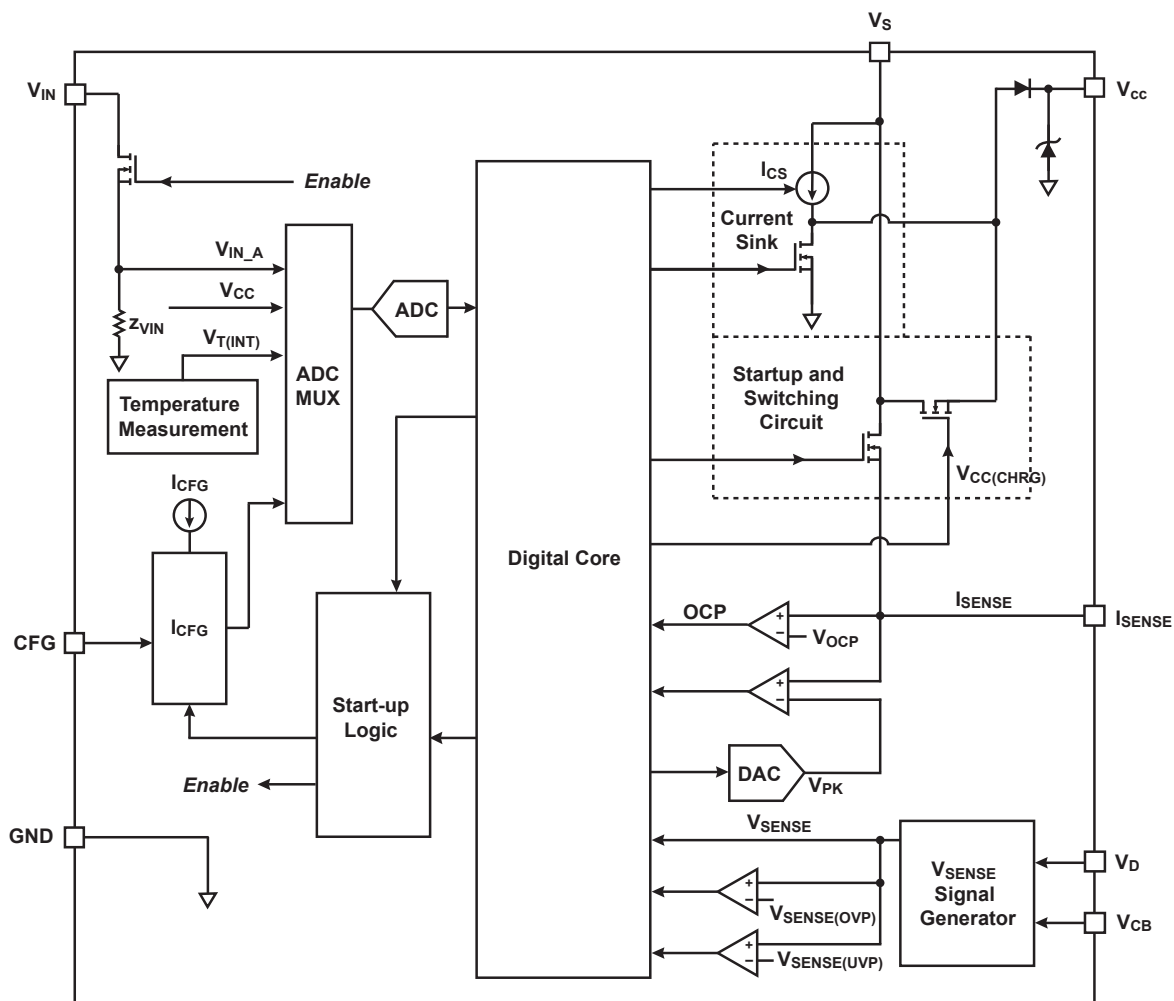
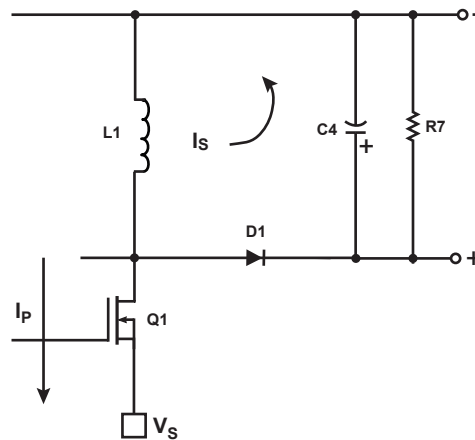
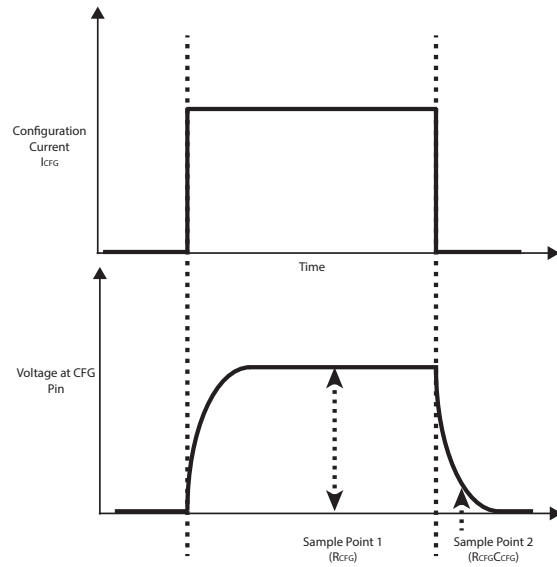

Figure 8.1 : iW3689 Functional Block Diagram
Figure 9.5 : Inductor Current Flow in Switching Mode
Figure 9.9 : Configuration Pin (CFG) Timing Waveform
- Note 2. Refer to the voltage level at the V_{IN_A} point in Figure 8.1. The typical impedance between the V_{IN} pin and V_{IN_A} point is 500Ω .
- Note 4. Refer to Z_{VIN} in Figure 8.1.
The Digital Core (shown in Figure 8.1) analyzes the rectified AC waveform and determines whether a dimmer is connected on the line. There are three dimmer modes in the iW3689: no-dimmer, leading-edge dimmer, and trailing-edge dimmer. Based on the detected dimmer type and input voltage waveform, the iW3689 determines whether to operate in current sink mode or switching mode. During switching mode, the output current regulation is determined by the inductor peak current (I_{SENSE} pin), the magnetic flux status of the inductor (V_D and V_{CB} pins), and the input voltage waveform (V_{IN} pin) (refer to section 9.4 for more information).
If a dimmer (either leading-edge or trailing-edge) is detected on the AC line, the iW3689 operates in dimmer mode. In dimmer mode, MOSFET (Q1 in Figure 11.1) operates in both switching mode and current sink mode based on the timing control of iW3689. During the switching mode, the output current is adjusted based on the detected phase conduction angle. During current sink mode, the switching circuit is disabled and the current sink circuit is enabled. The main MOSFET is forced to operate in linear mode, where the current through MOSFET is regulated by the Digital Core. As shown in Figure 8.1, V_{CC} can be charged during both current sink mode and switching mode.
In iW3689, output current regulation is implemented through peak current control in switching mode. Figure 9.5 and 9.6 show the basic principle of this peak current regulation during the switching mode. During T_{ON} , the main switch Q1 (shown in Figure 9.5) is turned on and the current, I_P , flows through the primary side of the buck-boost converter and Q1. I_P ramps up linearly and causes energy to build up in the power inductor L1 (shown in Figure 9.5). The iW3689 continuously monitors I_{SENSE} pin voltage, when it reaches V_{PK} (shown in Figure 8.1), it turns off the switching circuit. At this time, I_P reaches peak current regulation level I_{PK} (shown in Figure 9.5 and 9.6). After Q1 is turned off, the current in L1 ramps down linearly through D1 (shown in Figure 9.5), until the energy stored in the power inductor is discharged. During this period, the current through L1 flows to the secondary side of the buck-boost/flyback converter, which is called I_S .
where I_{PK} is the peak value of the primary winding current. N_{TR} is the primary-secondary turns ratio. For single winding inductor topology as shown in Figure 9.5, $N_{TR} = 1$. T_R is the secondary-side current ramp-down time, and T_P is the entire switching period.
At start-up, a current source in the iW3689 drives the configuration current I_{CFG} (100 μ A) into the CFG pin (shown in Figure 8.1). The iW3689 reads the pin voltage to determine the configuration option. The CFG pin configuration selects the temperature de-rating start point (OTP) and V_{PK} high limit value at dimmer mode. The iW3689 can use either a single CFG resistor to ground for programming the configuration function, or it can use an RC configuration method to achieve more configuration flexibility. The CFG pin monitors two voltage sample points as shown on figure 9.9. The first point is set by the resistor value from CFG to ground and the second is set by the RC time constant if a capacitor is placed in parallel with the CFG resistor. Based on these two sample points, the iW3689 sets the functionality shown in table 9.1. The iW3689 can determine whether or not the capacitor is used in parallel with the resistor or not and program the configuration function accordingly.